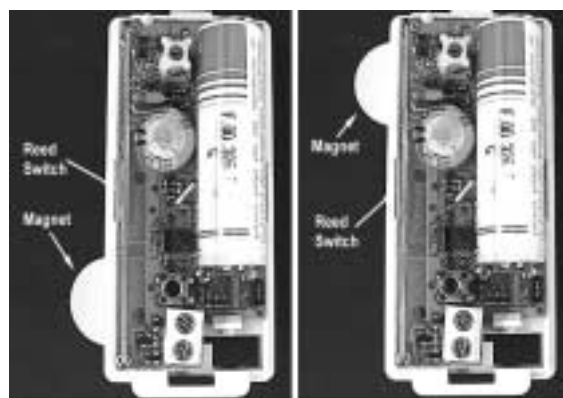

Figure 1. Acceptable magnet locations for a wall mounted UFT.
7. Mark where the UFT will be installed over the magnet. See Figure 1 for acceptable magnet locations for a wall mounted UFT.